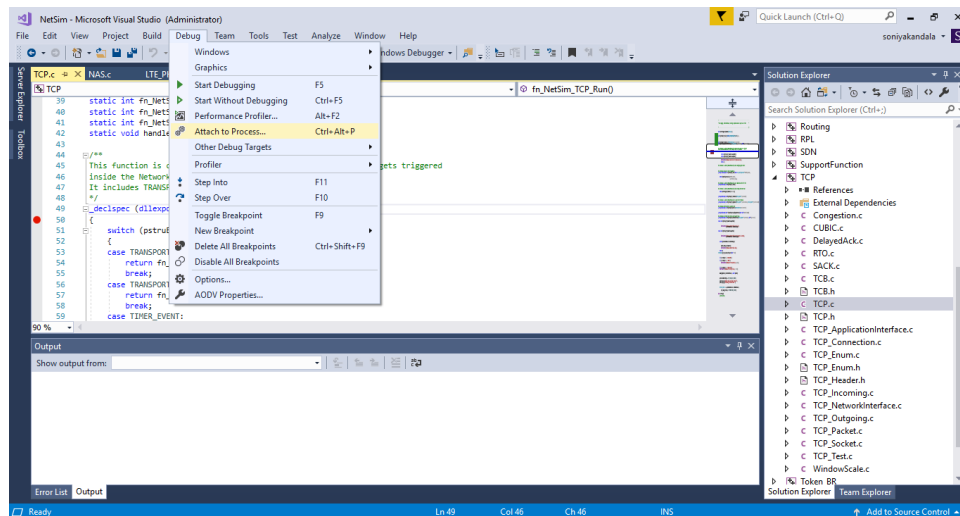

Figure 9-24: Debug > Attach to Process in Visual studio
Step 10: Go to “Debug→Attach to Process” in Visual studio as shown Figure 9-24 and select NetSimCore.exe from the list of processes displayed.